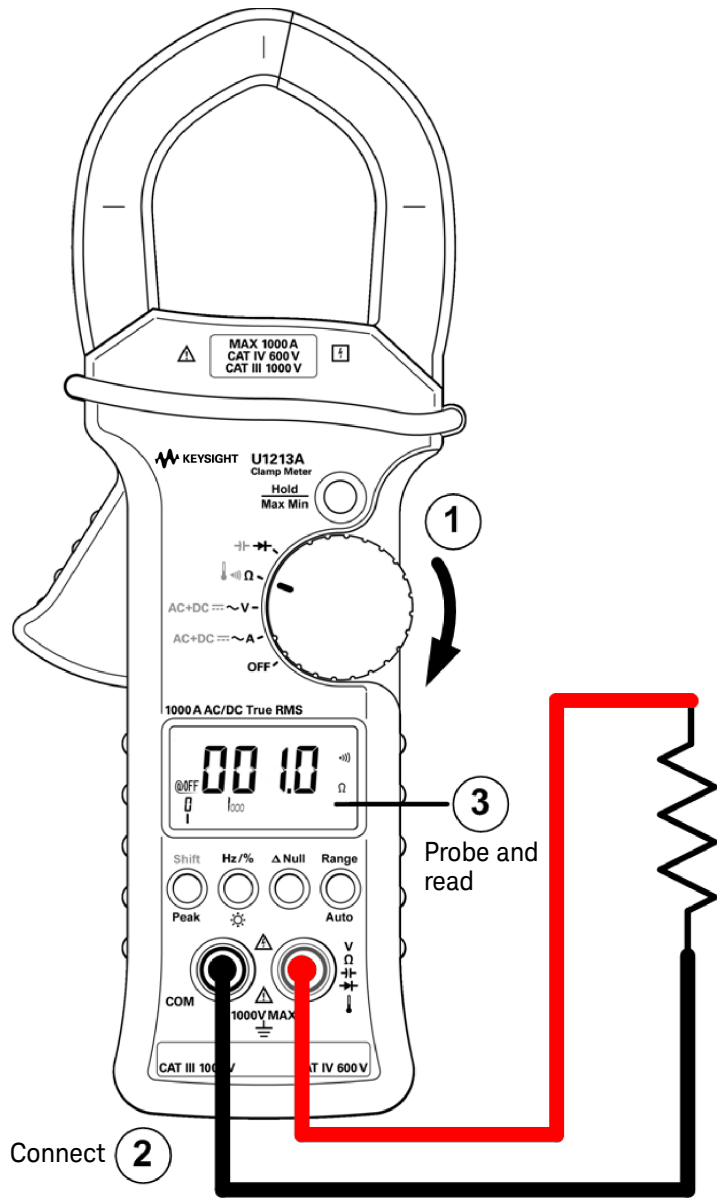

Figure 2-4 Continuity test
- 4 To perform continuity test, press **Shift** once (see Figure 2-4 on page 42). The buzzer will sound when the resistance is below 10.0 Ω .